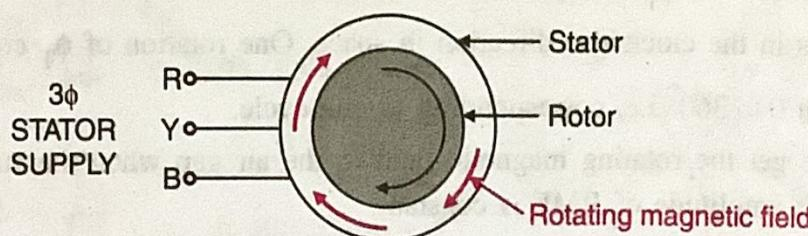

Fig. 8.6.1(a) : Principle of operation of induction motor
- The three phase stator winding of induction motor is connected to the three phase ac supply as shown in Fig. 8.6.1(a).
- Due to the three phase stator current a rotating magnetic field of constant amplitude and rotating at a constant speed is set up in the air gap between stator and rotor. (see Fig. 8.6.1(a)).